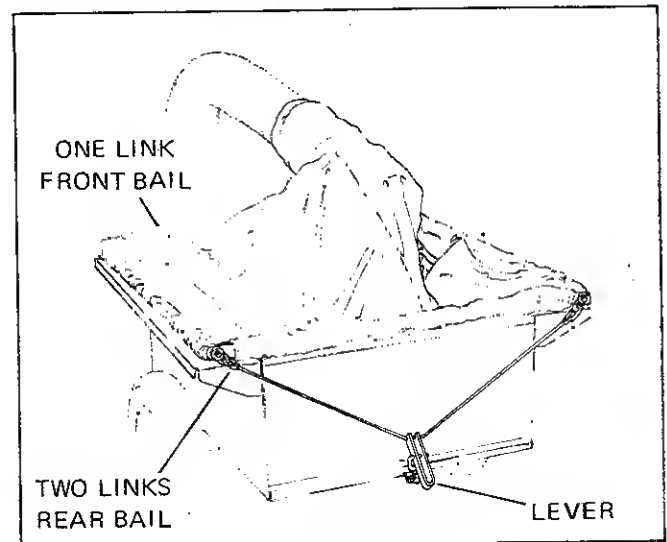

FIGURE 17
7. Insert each bail through slotted hole in lever and center the lever on the bail (Figure 17).
8. Attach one link to each end of one bail and two links to each end of other bail (Figure 17). The bail with two links each will be placed later at rear of cart and the bail with one link each at the front.